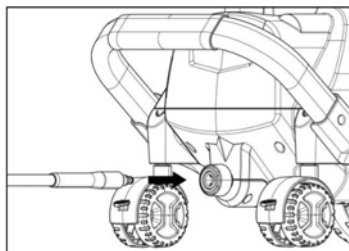

Fig.4
- Connect the other end of the high-pressure hose to the water outlet on the pressure washer and twist the black rotatable end-piece as indicated to secure the connection (Fig.4)